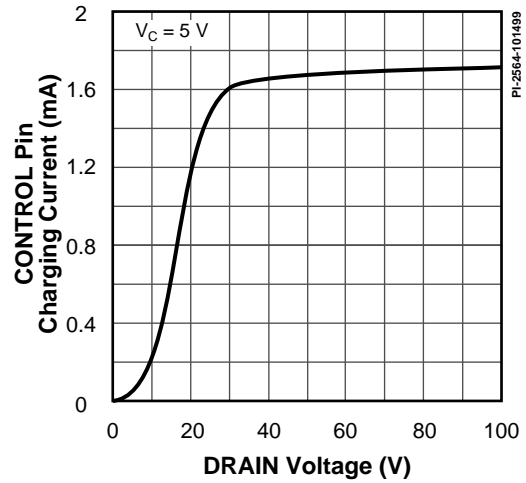

Figure 67.  $I_C$  vs. DRAIN Voltage.
- E. It is possible to start up and operate *TOPSwitch-GX* at DRAIN voltages well below 36 V. However, the CONTROL pin charging current is reduced, which affects start-up time, auto-restart frequency, and auto-restart duty cycle. Refer to Figure 67, the characteristic graph on CONTROL pin charge current ( $I_C$ ) vs. DRAIN voltage for low voltage operation characteristics.